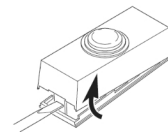

Figure 1
1. **Remove orange battery tab from push button.** Remove back of case by pushing in tab on bottom with a small screwdriver (see Figure 1). Remove orange battery tab.
• **Screw Mounting:** To mount with screws, remove back of case by pushing in tab on bottom with a small screwdriver (see Figure 1). *Note:* Remove material in screw holes (if needed) before mounting with screws. Attach back of case to door jamb or wall (see Figure 3). Snap front of push button on.